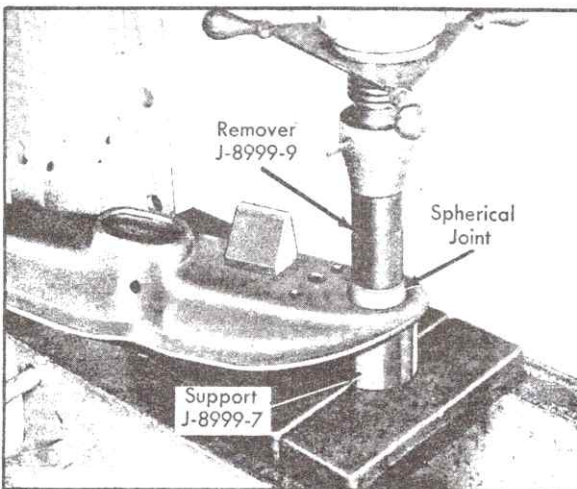

Fig. 3-15 Removing Spherical Joint from Lower Arm
4. Position Spherical Joint Remover, J-8999-9, over joint stud until it seats on joint housing, Fig. 3-15, and press spherical joint out of arm.